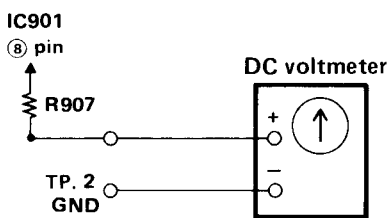

Fig. 28
(1) Instrument to be used
(2) Adjusting procedure
- [3] Connect the DC voltmeter as shown in Fig.28